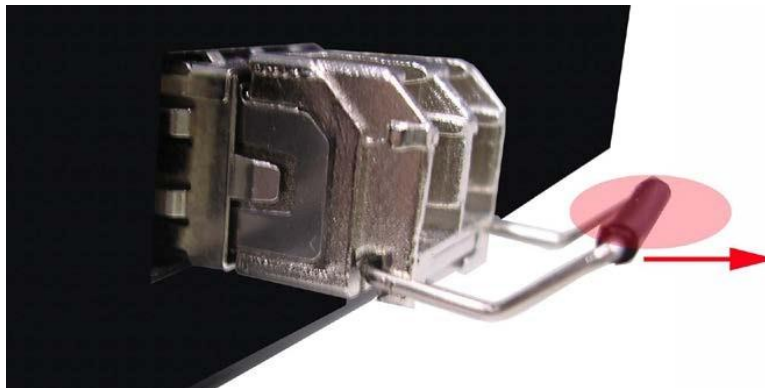

Figure 2.13: Pull Out from the SFP Module
Step 2 Push down the metal clasp and pull the transceiver out by the plastic part as shown below in Figure 2.13